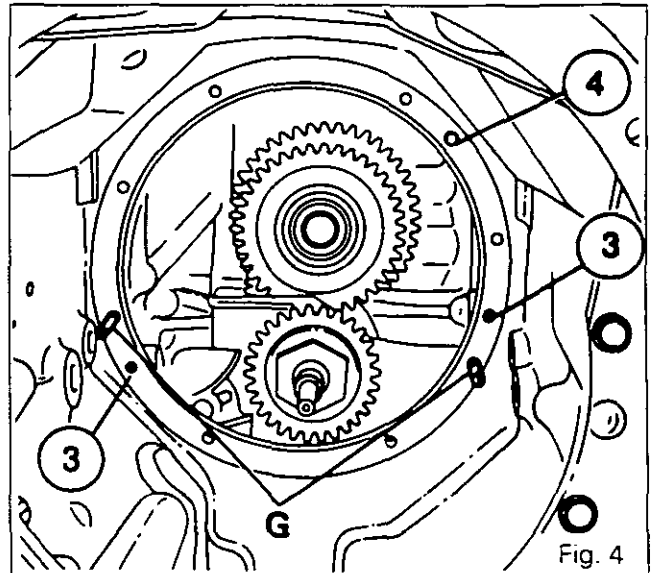

Fig. 4
11. On the housing, position the new O-rings (3) and the locating pin (4) (Fig. 4).
12. On the gearbox, screw in two locating studs "G", as per Fig. 4. Offer up the gearbox in the housing, using the sling.
13. At a first stage, with the help of an operator, slightly lift the layshaft through the opening of the selector cover in order to engage the cone of the shaft in the cup (64).